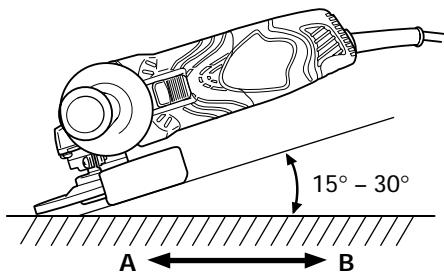

Fig. 4
4. Use proper grinding angle. Grind only with the wheel's edge by lifting the grinder 15° to 30° , as shown in Fig. 4.
5. Move the grinder in the proper direction. When using a new depressed center wheel in direction A (Fig. 4), the wheel edge may cut into the workpiece. In this case, grind in direction B (Fig. 4). Once the wheel edge is worn, the workpiece can be ground in both directions.